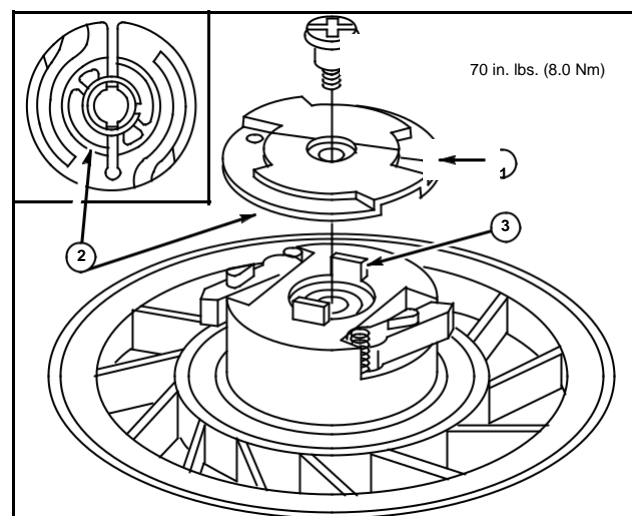

Fig. 38
2. Install retainer (1) making sure that slots in retainer (2) engage tabs on pulley (3), Fig. 38.